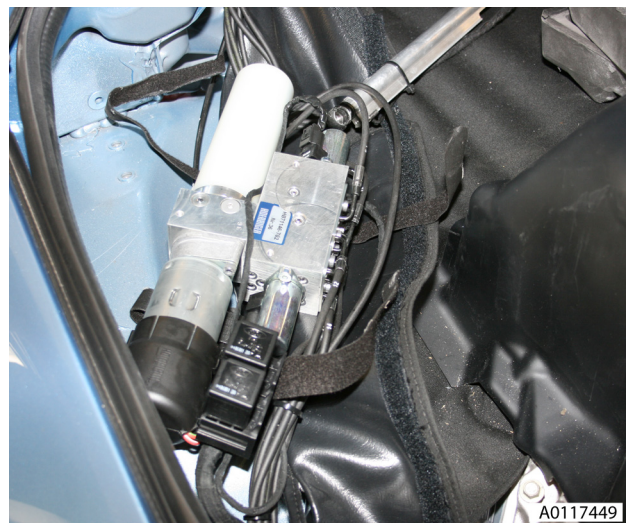

Fig. 21
40. Release velcro around pump casing and remove casing (see Fig. 21).